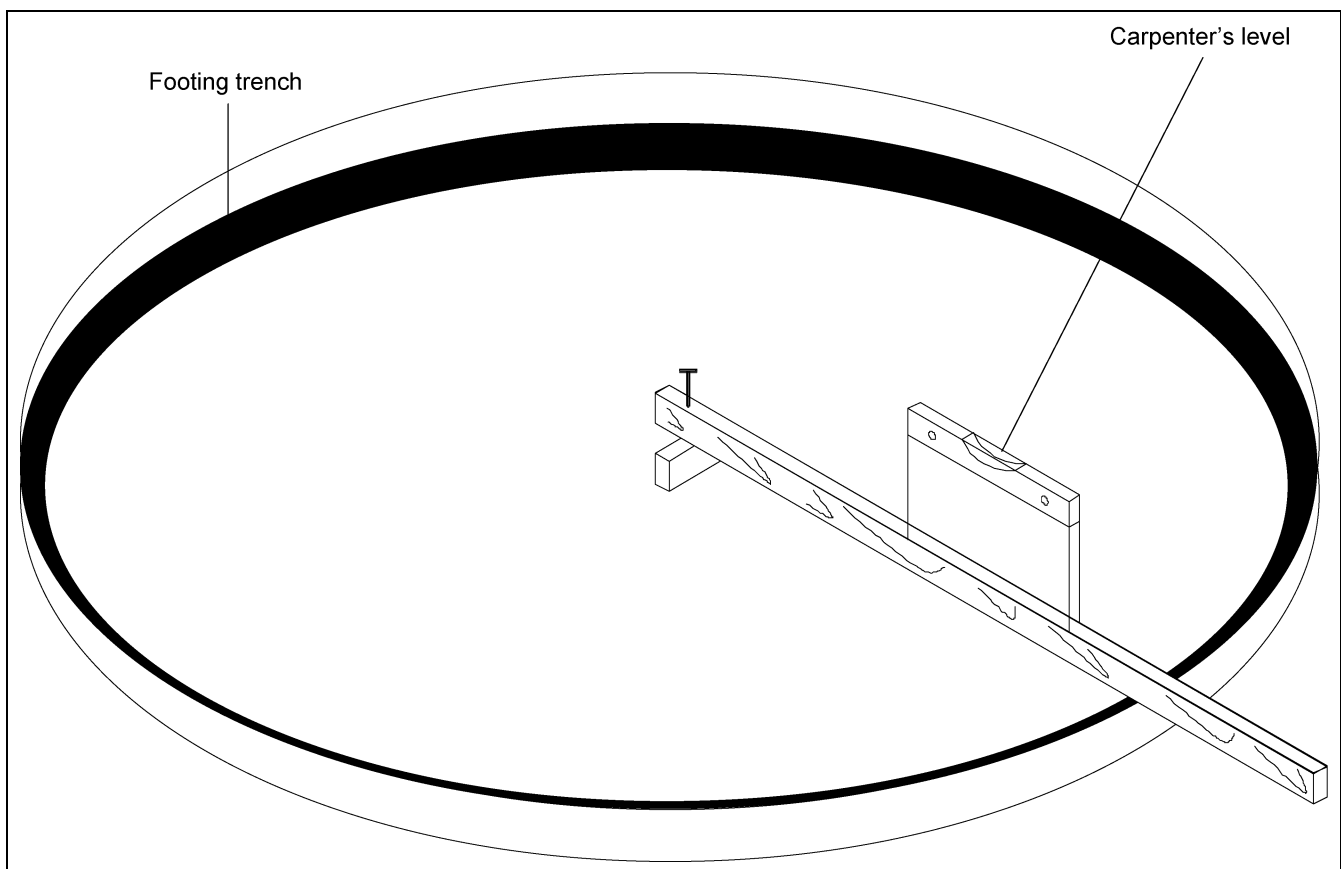

Figure 3B
Having scribed the diameter of the foundation, proceed by digging the foundation's footing. This consists of a large circular trench dug inside the foundation line, (Refer to foundation details for necessary information). Once the footing has been dug, you are ready to build the forms. It is important that the forms be rigid enough to hold its shape against the poured concrete. Also, the foundation must be flat. Sloped floors cannot be used in drying bins. A carpenter's level placed on top of the compass 2 x 4 will enable you to set the top of the forms to match the top of the center stake. Check the form work with a transit to ensure a uniform elevation for the entire foundation. The foundation should be level within 1/8" on non-stiffened tanks and 1/4" on stiffened tanks at bin wall perimeter. Stiffened tanks must be shimmed level. (See Figure 3B.)
There are two (2) styles of foundation forms commonly used. The first is the circular form shown in Figure 3B. The second style of foundation can be made of 2" x 8" boards set into a square with the corners blocked off to form an octagon. This eight sided form will approximate a circle and can also be constructed easily.